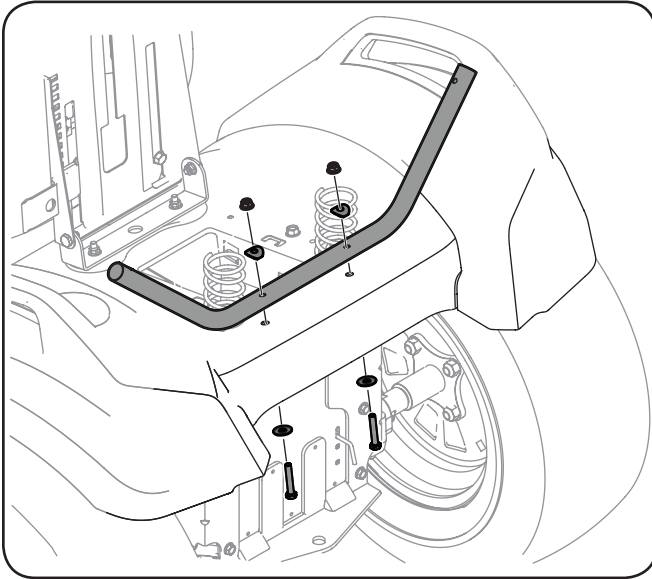

Figure 3-5
- Use two flange lock nuts (#10), two saddle washers (#9), two flat washers (#13) and two hex screws (#14) to mount the rear support (#1) to the frame of the tractor as shown in Figure 3-5.